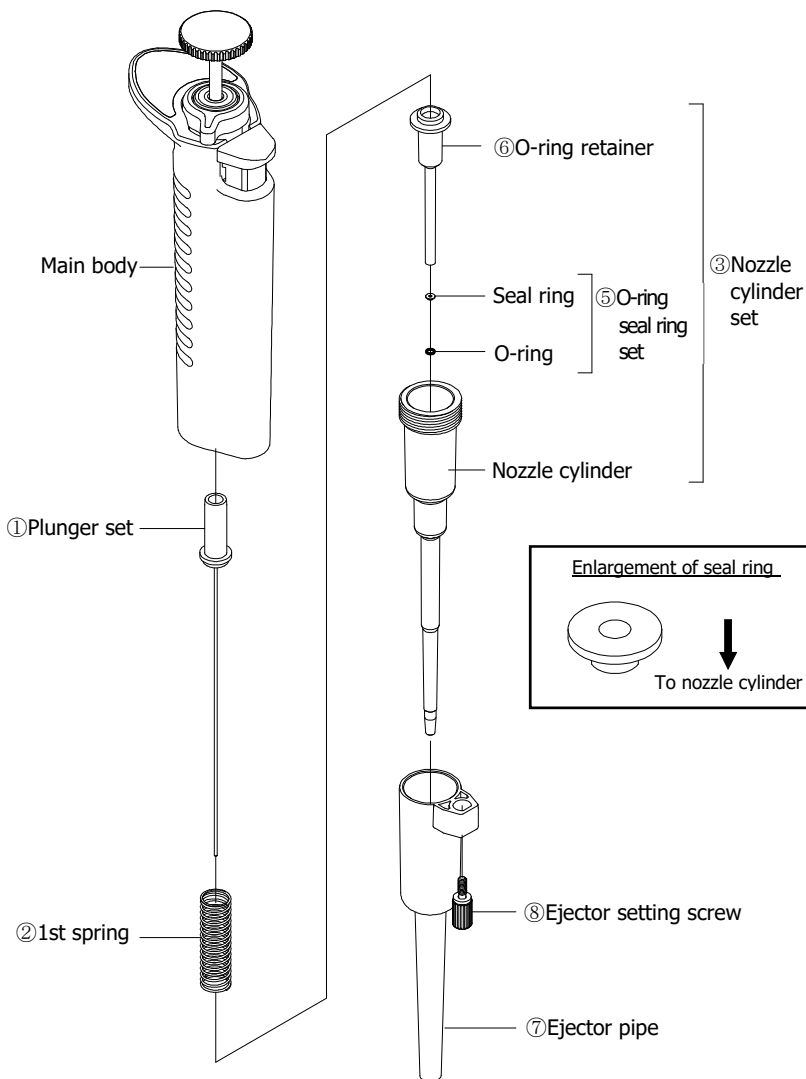
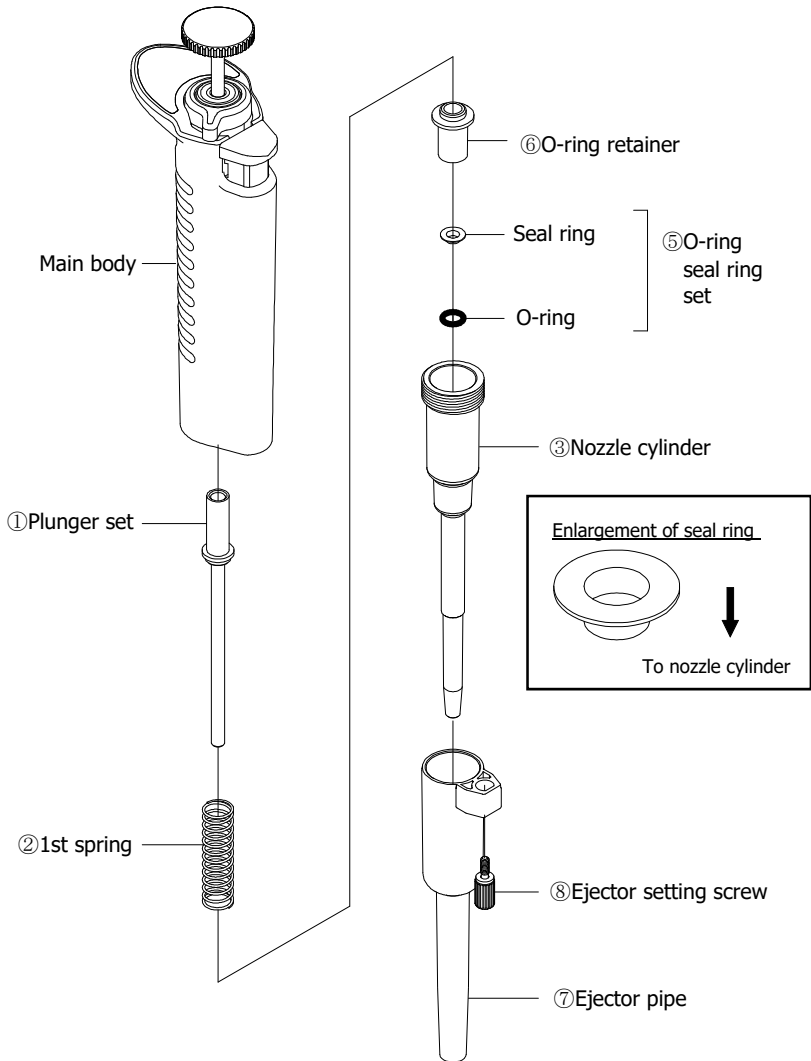

Fig. G1
Fig. G2
- 3) Disassemble the internal parts as shown in; (Fig. G1) for Models: 2 $\mu$ L, 10 and 20 $\mu$ L, (Fig. G2) for Models: 100 $\mu$ L and 200 $\mu$ L, and (Fig. G3) for the Model: 1000 $\mu$ L.
- For models: 2 $\mu$ L, 10 $\mu$ L, 20 $\mu$ L (Fig. G1), 100 $\mu$ L and 200 $\mu$ L (Fig. G2), 1000 $\mu$ L (Fig. G3)
- Models: 2 $\mu$ L, 10 $\mu$ L, 20 $\mu$ L (Fig G1), 100 $\mu$ L and 200 $\mu$ L (Fig. G2), 1000 $\mu$ L (Fig. G3)
Circled Numbers in (Fig. G1) corresponds to Parts Numbers in the replacement parts list.
Circled Numbers in (Fig. G2) corresponds to Parts Numbers in the replacement parts list.